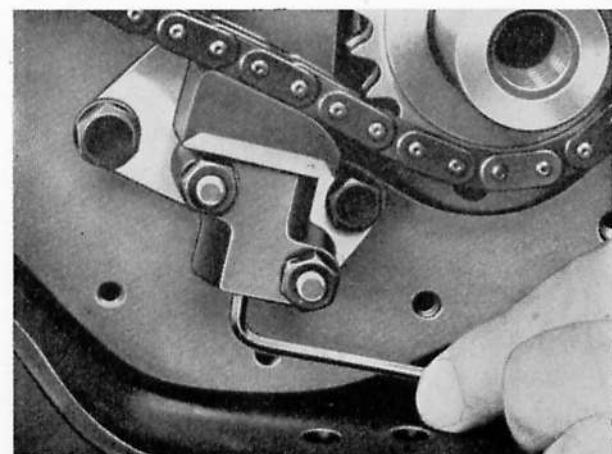

Fig. A.16. Releasing the chain tensioner slipper pad from the chain
4. Insert a  $\frac{1}{8}$  in. Allen key through the plug hole to engage the piston (Fig. A.16). Turn the key clockwise (as viewed from below), until the slipper pad is free of spring pressure. Between a half to one full turn is necessary.
to engage the piston (Fig. A.16). Turn the key clockwise (as viewed from below), until the slipper pad is free of spring pressure. Between a half to one full turn is necessary.